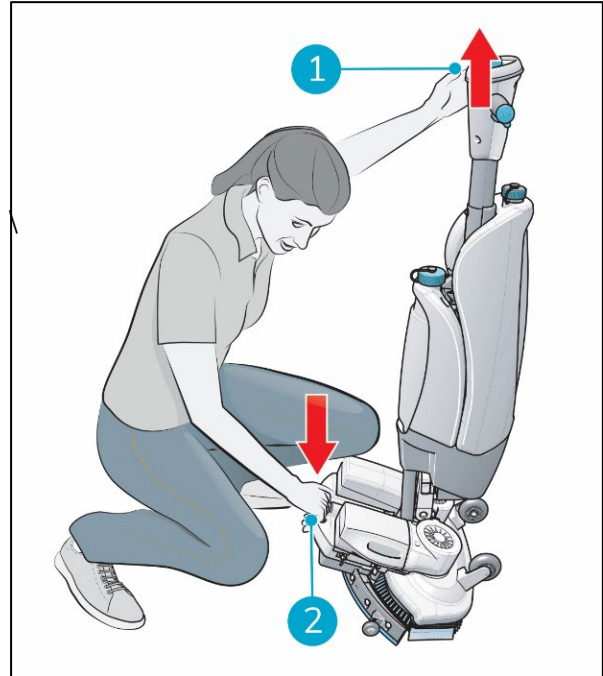

Figure 19
1. Crouch down while holding the scrub deck firmly with one hand (Figure 19, pos 2).
2. Push the handle forward with your other hand (Figure 19, pos 1).